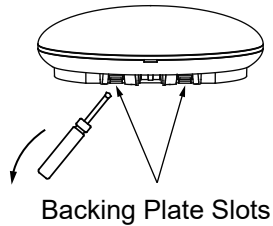

Figure 5.
1. Carefully remove the Backing Plate by inserting a slot screwdriver into the slots as shown in Figure 5 in the lower part of the Smart Port (2 places), and lever up to remove the Smart Port base.